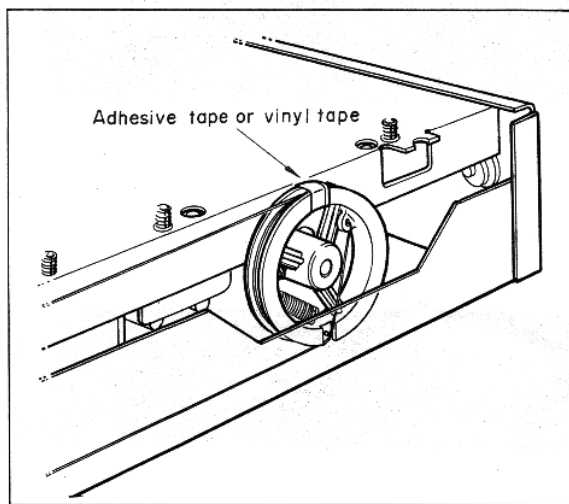

Fig. 1
3. Tuner printed circuit board (1) removal
- Pull out connectors #4 and #5 in Photo 2 which are connected to the tuner printed circuit board (1).
- Remove screws (1) and (2) in Photo 3 (M3 x 6 bind head screws), and then remove the power switch along with the fitting.
- Remove screws (11) to (16) in Photo 2 (M3 x 6 bind head screws), and then remove the tuner printed circuit board (1).
- Loosen screws (17) and (18) of the variable capacitor pulley in Photo 2 and then pull out the pulley from the variable capacitor shaft. You will find that if you wind adhesive tape or vinyl tape to secure the dial string to the pulley so that the string does not get tangled up (see Fig. 1), the replacement operation will be facilitated.
- Remove screws (A) to (C) in Photo 2, and then remove the RF front end pack.